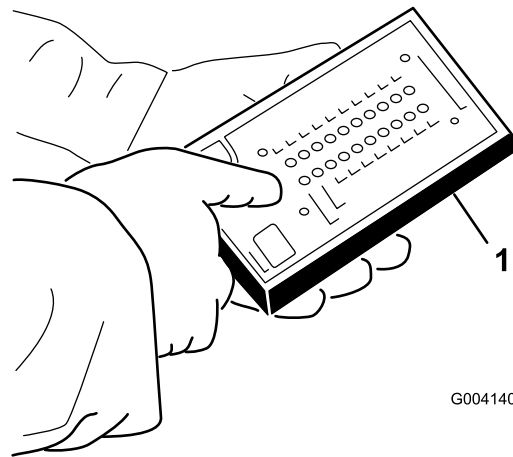

Figure 40
4. Connect the Diagnostic ACE display tool connector to the diagnostic connector (Figure 40).